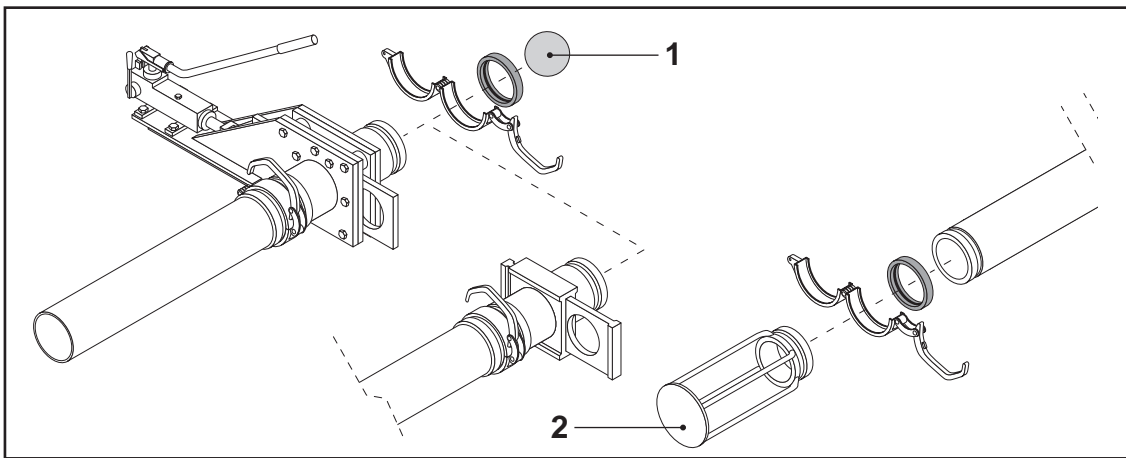

FIG.29
- Wet a washing sponge with water (FIG.29-REF.1) and insert it in the piping.
- By means of Victaulic fittings complete with rubber gasket, connect the specific drum (FIG.29-REF.2) collecting the outfeed sponge at piping end.